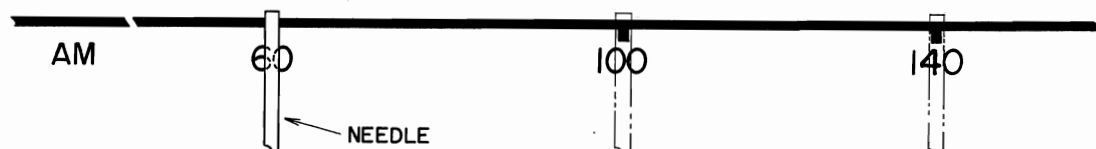

Fig. 17
- 3) Set Receiver SELECTOR to AM and tuning indicator needle to 600 kHz. (Refer to Fig. 17)
- 5) Set the oscillation frequency of AM S.G. and tuning indicator needle of Receiver to 1,400 kHz. (Refer to Fig. 17)
- 3) Set the oscillation frequency of the AM S.G. to 600 kHz (400 Hz 30% internal modulation). Set Receiver SELECTOR to AM and the tuning indicator needle to 600 kHz. (Refer to Fig. 17)
- 6) Set the oscillation frequency of AM S.G. and tuning indicator needle of Receiver to 1,400 kHz. (Refer to Fig. 17)